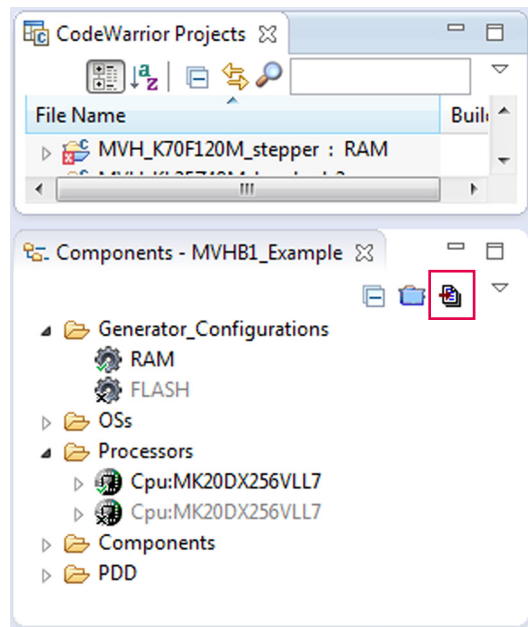

Figure 19. Generating the source code
1. Click on the Generate Processor Expert Code icon in the upper right corner of the Components panel (Figure 19).